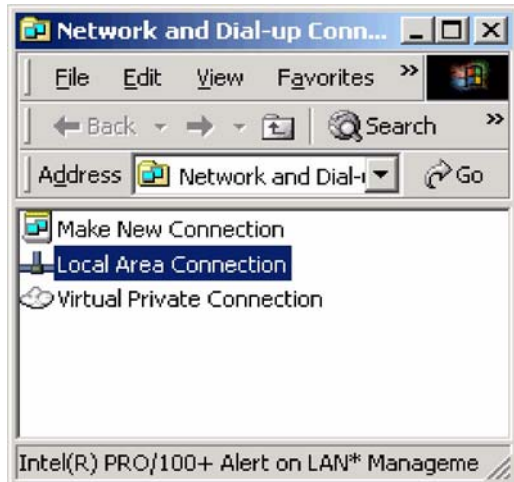

Figure 3 Preparing to Configure Network Controller
13. Right click on Local Area Connection and select **Properties** (Figure 3).